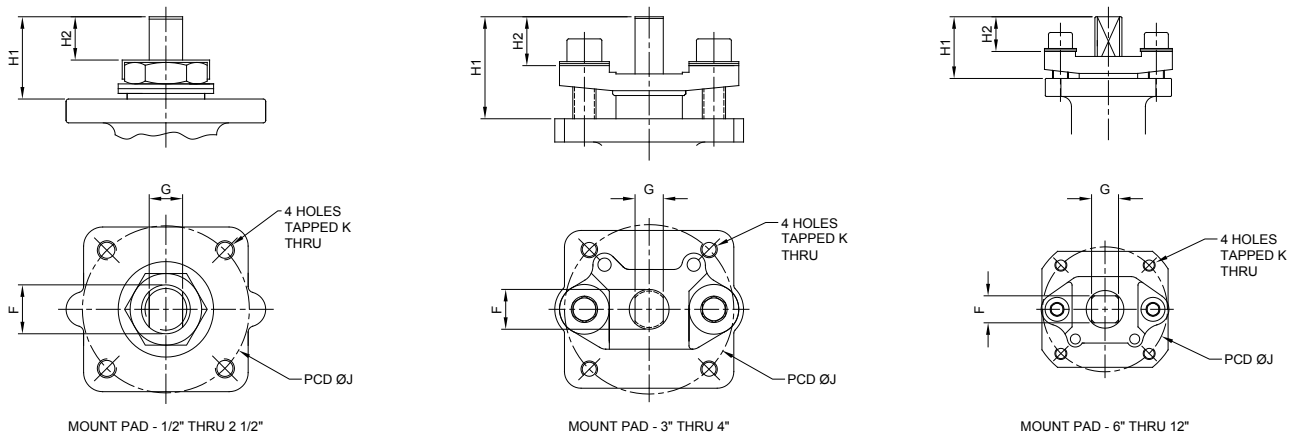

Fig. 3 - Valve Stem & Mount Pad Set-Up
- 5.5 The mount pad for each valve conforms to ISO 5211 and the stem dimensions are as shown in fig. 3 and table 1 below. Standard ISO brackets and couplers are available from AVCO to suit a wide range of actuator styles.